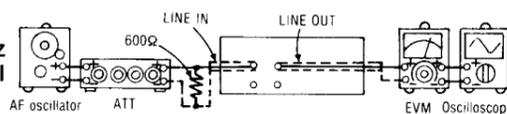

Fig. 7
1. Test equipment connection is shown in Fig. 7.
6. If it is not within the standard, adjust VR101 (L-CH) (VR102 (R-CH)) and repeat the step (2), (3) and (4) until the output is within the standard.